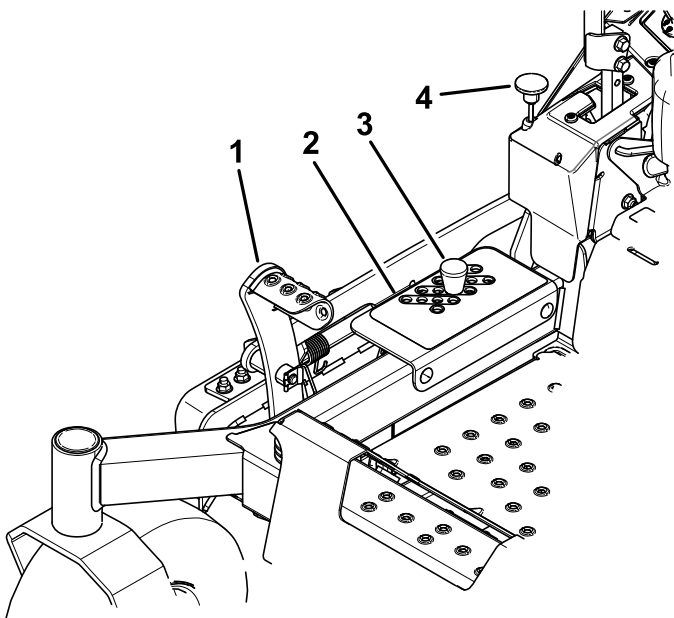

Figure 29
2. Push on the deck-lift pedal with your foot and raise the mower deck to the TRANSPORT position (also the 127 mm or 5 inch cutting-height position) as shown in Figure 29.
3. Remove the pin from the height-of-cut bracket (Figure 29).
4. Select a hole in the height-of-cut bracket corresponding to the height-of-cut desired, and insert the pin (Figure 29).